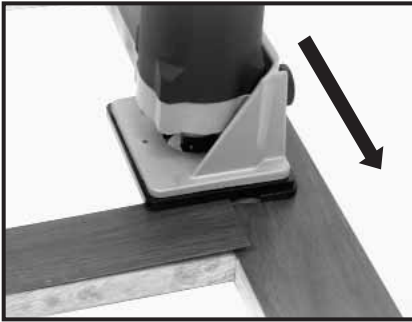

Fig. 19
5. Position the underscribe trimmer onto the face frame so that the top (see Fig. 19), is against the edge of the stile.
NOTE: The trimmer should be to the right of the rail, so that the cutting action will move from right to left (see Fig. 19).